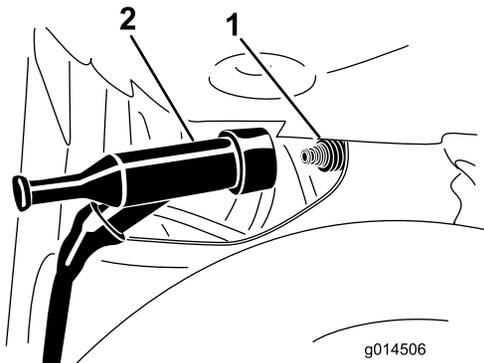

Figure 54
3. Pull the spark-plug wire off the terminal of the spark plug (Figure 54).
4. Push the spark-plug wire onto the terminal of the spark plug (Figure 54).